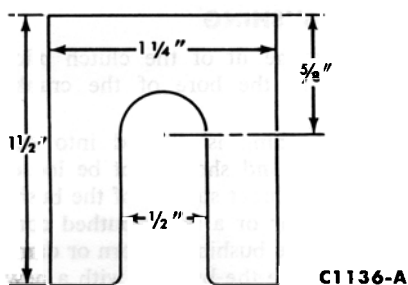

FIG. 2—Dia-I-I-gner Gauge
8. Pull the crankshaft through one revolution. Note the indicator reading and mark the maximum point of runout on the face of the housing as detailed in Steps 3 and 4 of the Dia-L-Igner instructions (Fig. 2).